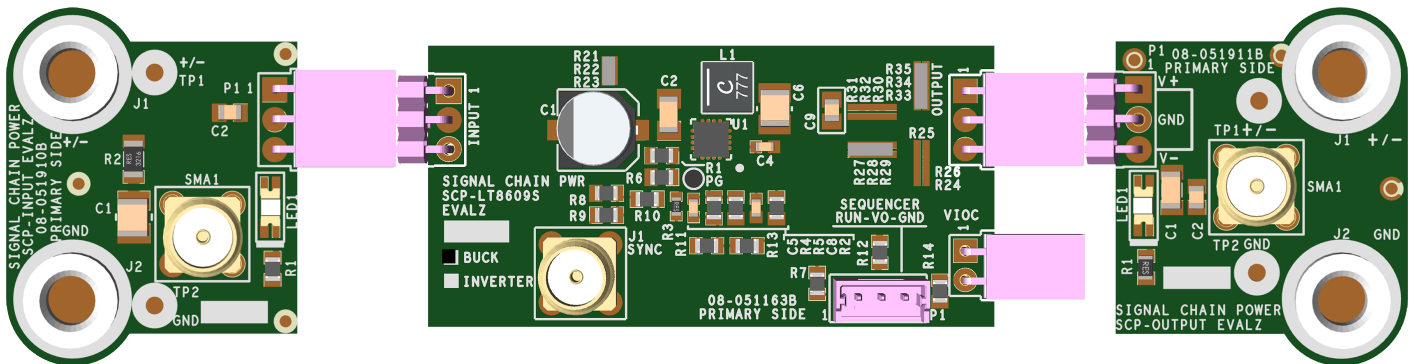

Figure 2. Proper Measurement Equipment Setup (Use SMA connectors for Measuring Input or Output Ripple)
2. Connect the SCP-INPUT-EVALZ and SCP-OUTPUT-EVALZ boards to the SCP-LT8609S-BEVALZ (refer to Figure 2) and connect the input board to a voltage source,  $V_{SOURCE}$ . Connect the output board to a voltmeter or dynamic load. Slowly raise the input voltage until the SCP-LT8609S-BEVALZ powers up into regulation and sweep  $V_{SOURCE}$  through the desired range of operation.